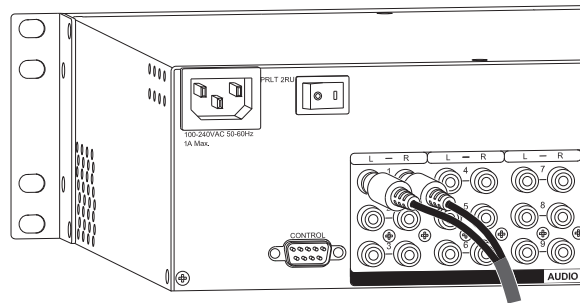

FIG. 4 Insert RCA plugs into RCA jacks
1. Insert the RCA plugs into the input and output RCA jacks according to the labels on the enclosure (FIG. 4).